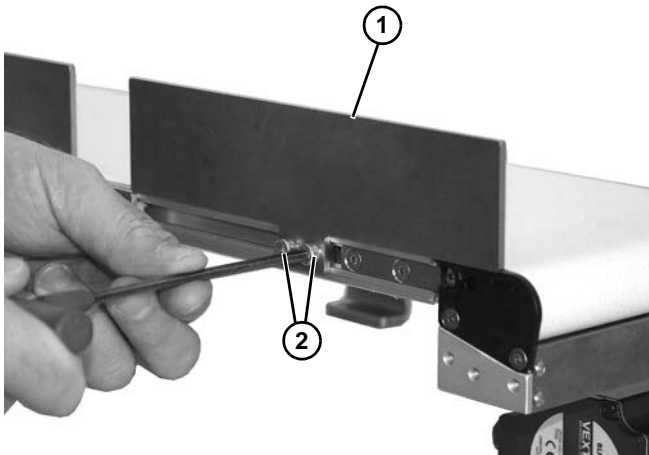

Figure 14
2. Install guiding support bracket (Figure 14, item 1) with two screws (Figure 14, item 2).